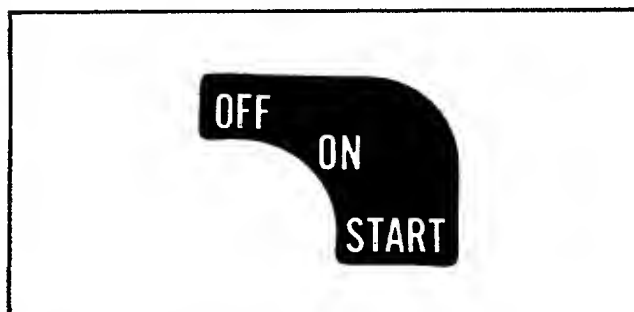

FIGURE 14. IGNITION SWITCH LABEL
- Step 5. Turn the ignition key to the right to start the engine. Allow the key to return to the ON position. See figure 14.